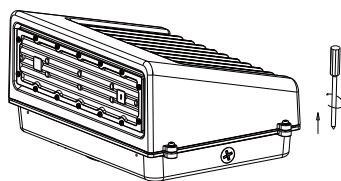

Fig. 1-1A
1. Take out the fixture, and loosen the screws on the cover and take apart the fixture by the screwdriver. Pull off the quick connect terminal vigorously. (Fig. 1-1A&B)